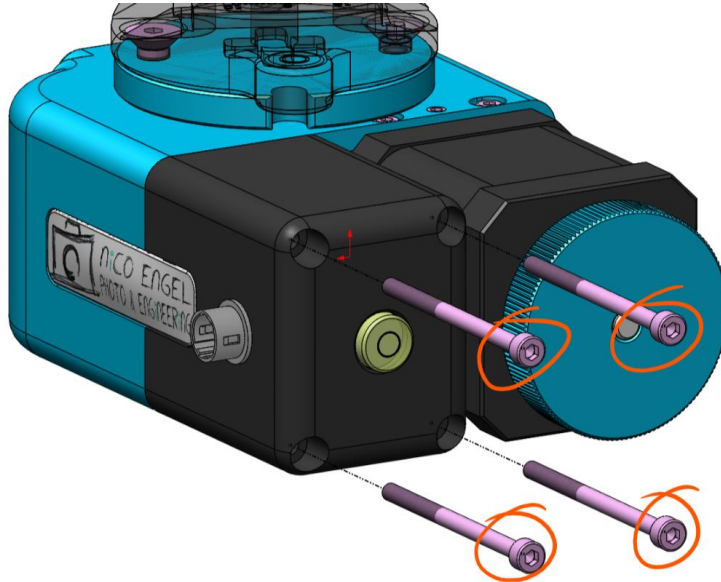

Fig. 6
1. Loosen four cylinder screws DIN 912 - M3x45 (Fig. 6) on the motor cover.